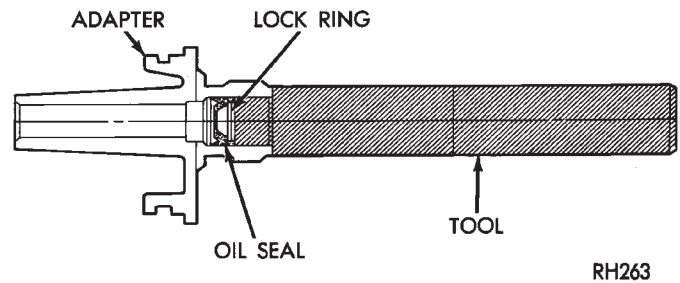
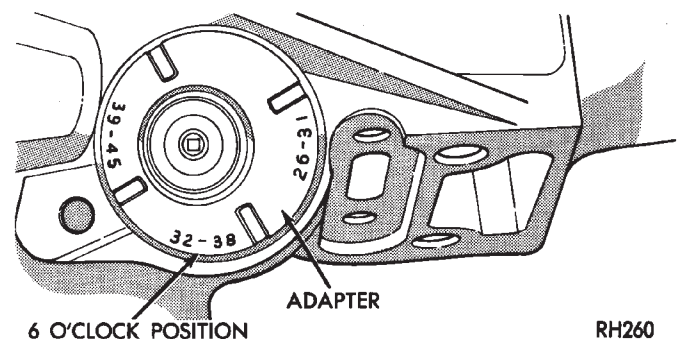

Fig. 27 Installing Speedometer Adapter Seal (With Two-Piece Sensor And Metal Adapter)
Fig. 28 Indexing Speedometer Adapter (With Two-Piece Sensor)
(1) Replace speedometer O-ring if cut, torn, or worn.
(2) If oil seal in metal speedometer adapter needs replacement, remove old seal with pointed tool. Then install new seal with Special Tool C-4004. Push seal into place with tool until tool bottoms (Fig. 27).
(6) Note range numbers on face of speedometer adapter (Fig. 27). These numbers correspond to number of teeth on speedometer pinion.
(7) Install pinion in adapter and install assembled pinion and adapter in transmission or transfer case.
(8) Rotate speedometer adapter until required range numbers are at 6 o'clock position (Fig. 28). **Verify that range numbers correspond to number of teeth on pinion.**
(9) Push speedometer adapter into place until seated.
(10) Install speedometer adapter clamp and bolt. Tighten bolt to 11 N·m (100 in. lbs.) torque.
(11) Install sensor adapter on speedometer adapter. Tighten sensor adapter coupling nut to 17 N·m (150 in. lbs.) torque.
(12) Carefully align and insert vehicle speed sensor into sensor adapter.
(13) Install bolt that attaches speed sensor to adapter. Tighten bolt to 5-8 N·m (48-72 in. lbs.)
(14) Connect wires to speed sensor.
(15) Lower vehicle.
(16) Check top off transmission fluid level if necessary.